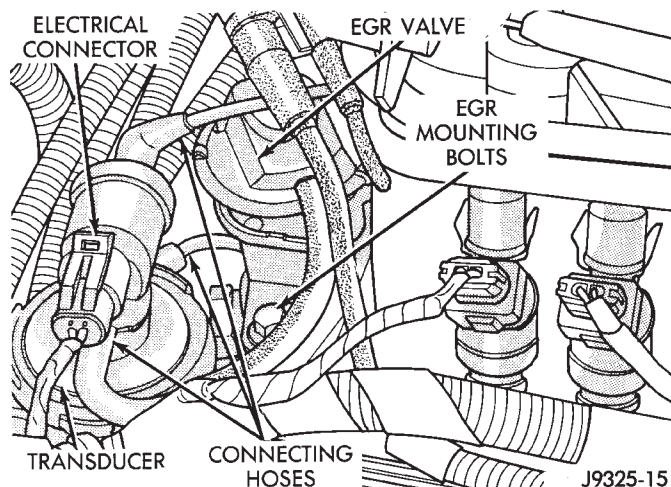

Fig. 6 EGR Valve Hoses—5.2L Engines
(1) Disconnect vacuum hose to EGR valve/transducer assembly. Note position of hoses (Fig. 6) on the EGR valve and transducer for easier installation.
- (2) Remove EGR mounting bolts (Figs. 6 or 7).
- (3) Remove EGR valve and gasket. Discard old gasket. Clean intake manifold mating surface and check for cracks.